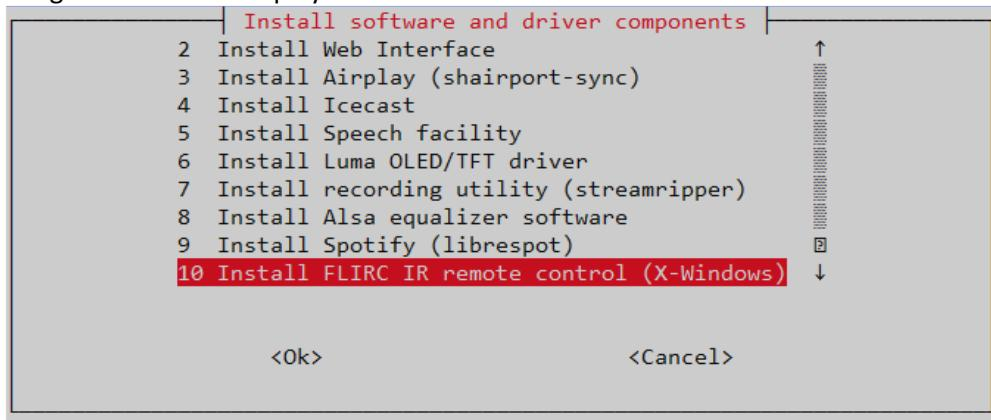

Figure 224 Install FLIRC IR remote control
- Select option **10 Install FLIRC IR remote control (X-Windows)** from the **radio-config** menu shown in *Figure 224 Install FLIRC IR remote control* on page 165. Note that you will need to use the down arrow key on your keyboard to see option 10.